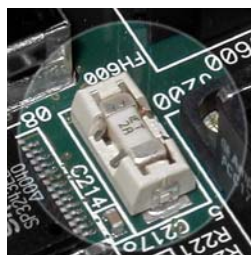

Figure 6-5.
4. Locate the fuse and fuse holder on the transceiver's PC board. See Figure 6-5 for details.